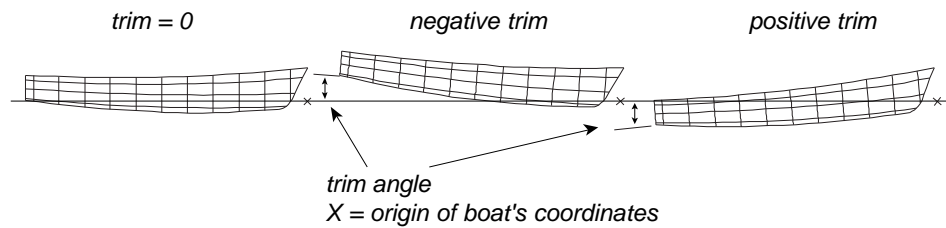

Fig. 4 Trim is the inclination of the model's X-axis relative to the water surface.
**Trim:** Inclination, in degrees, of model's X-axis relative to water surface; positive trim is stern down (Fig. 4). Note: this is opposite to "Trim" as used in other AeroHydro programs. Startup default is 0.